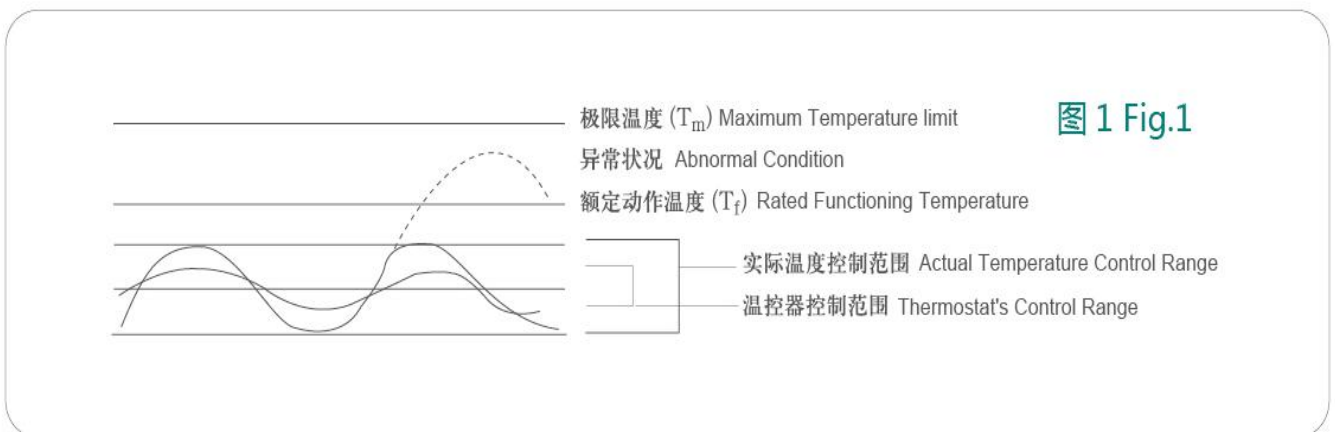

图 1 Fig.1
- 应用产品必须经过测试以确定当出现任何异常状况时，都不会使温度保险丝周围温度超过其极限温度 (T_m)，这种状况可能出现在一种称为“余热过冲”的状况下。例如：一个热风机在进风口或出风口堵塞时引起温度升高到 T_f ，这时温度保险丝断开电路，但是，一个不正确的设计可能会引起装置提前开路和过度的余热过冲可能会损伤保险丝，应用产品须经过测试以确定在正常的温度波动状态（如控温器的动作与复位引起的加热器温度波动）下，温度保险丝周围温度在控温器的通断循环中不会达到 T_m 。（见图 1）
- The end product should be tested to ensure that potentially abnormal conditions do not exposed the TCO to the temperature exceeding its T_m . This condition may occur in an "overshoot" situation. For example, an air heater may be subjected to a blocked inlet or outlet condition on attaining its T_f , the TCO will open. However, an incorrect design may cause the premature opening of the device and excess overshoot may cause shooting or damage to the TCO. The end product should be tested to ensure that under normal cycling condition (such as heater cycling of a thermostat), the TCO never reaches its T_f during the "on" or "off" cycle. (see Fig. 1)